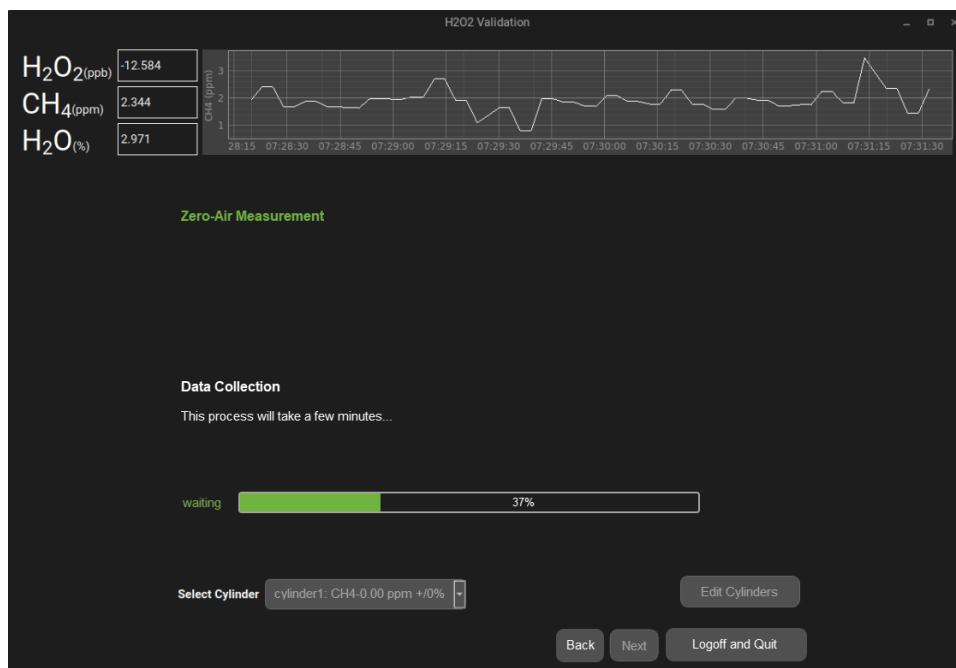

Figure 53 - Zero-Air Measurement
- Click **Next** to begin measurement. This will take several minutes. Once it has finished with measuring the cylinder, it will show a confirmation dialog that measurement is complete (Figure 53 - Zero-Air Measurement).